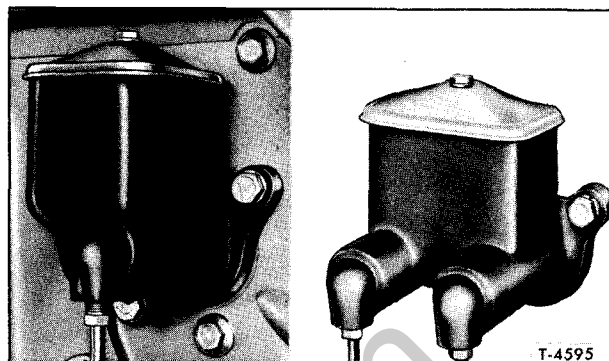

Figure 19—Clutch and Master Brake Cylinder (Typical)
2. If oil is below level mark remove pipe plug (fig. 19).